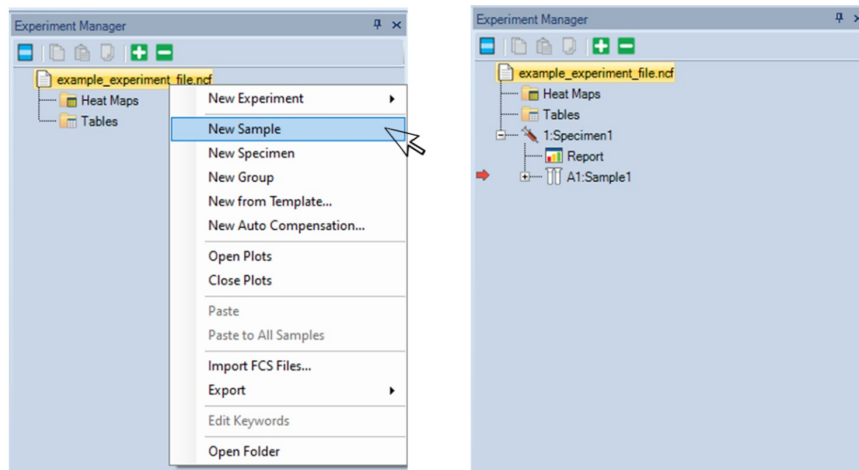

Figure 8: creation of new elements: sample, specimen or group, from the “experiment manager”.
Right-click on the first line (file_name.ncf) in the "Experiment Manager" window, then select **"New Specimen"** (Fig. 8). If the "Experiment Manager" window is not visible, go to the "View" tab at the top and click on "Experiment Manager" to display it.
1. Right-click on the first line (file_name.ncf) in the “**Experiment Manager**” window, then select “New Sample” (similar to creating a new sample or group) (Fig.8).